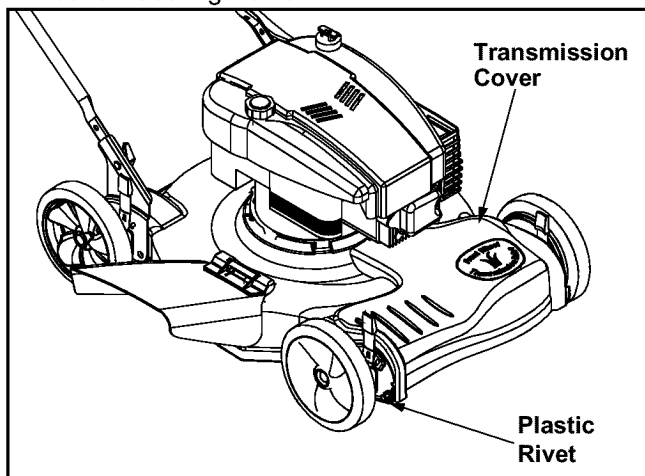

Figure 13
- Remove the transmission cover by sliding off the two plastic rivets with a screwdriver on each side of cover. See Figure 13.
- Make sure belt is routed inside the belt keepers. See Figure 13.